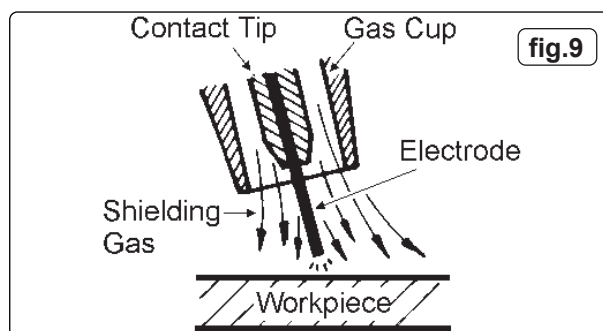

fig.9
4.8.1. Welding wire is automatically fed through an insulated liner to the tip of the torch. The torch consists of a switch, liner, gas hose, and control cable. The switch activates the wire feed roller and the gas flow. Releasing the switch stops wire feed and gas flow. The weld current is transferred to the electrode (the wire) from the contact tip at the torch end. The current to the electrode is set using the two switches on the front of the control panel. Wire speed must be adjusted according to current output using the rotary control below the power switches. The higher the current the faster the wire speed. A gas cup fits over the contact tip to direct gas flow towards the weld, (See fig.9) ensuring that the arc welding process is shielded from oxidation. The shielding gas also assists heating of the weld. The torch is connected to the positive side of a DC rectifier, and the negative clamp is attached to the workpiece.